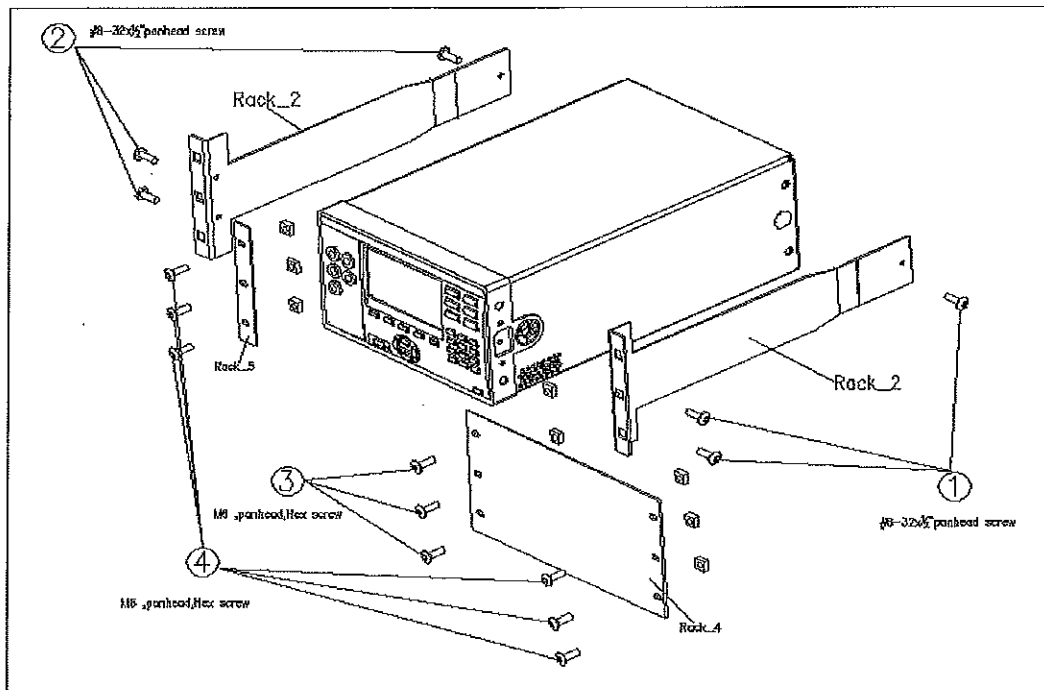

Figure 2
1. Using three #8-32 x ½" panhead screws, attach the Rack_2 on the right front side of the Meter, keeping the smooth face with three holes of the bracket facing the front as shown in Figure 2.
4. Install the assembled rack mount kit in the rack using the six M6 screws with the Rack_5 under the screws on the left-hand side of the rack as shown in Figure 2.